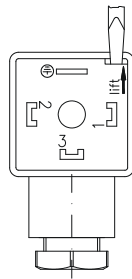

Fig. 5.2.2
- ✚ Open the core ⑧ of the cable socket ② with a screwdriver or similar tool (→ Fig. 5.2.2).